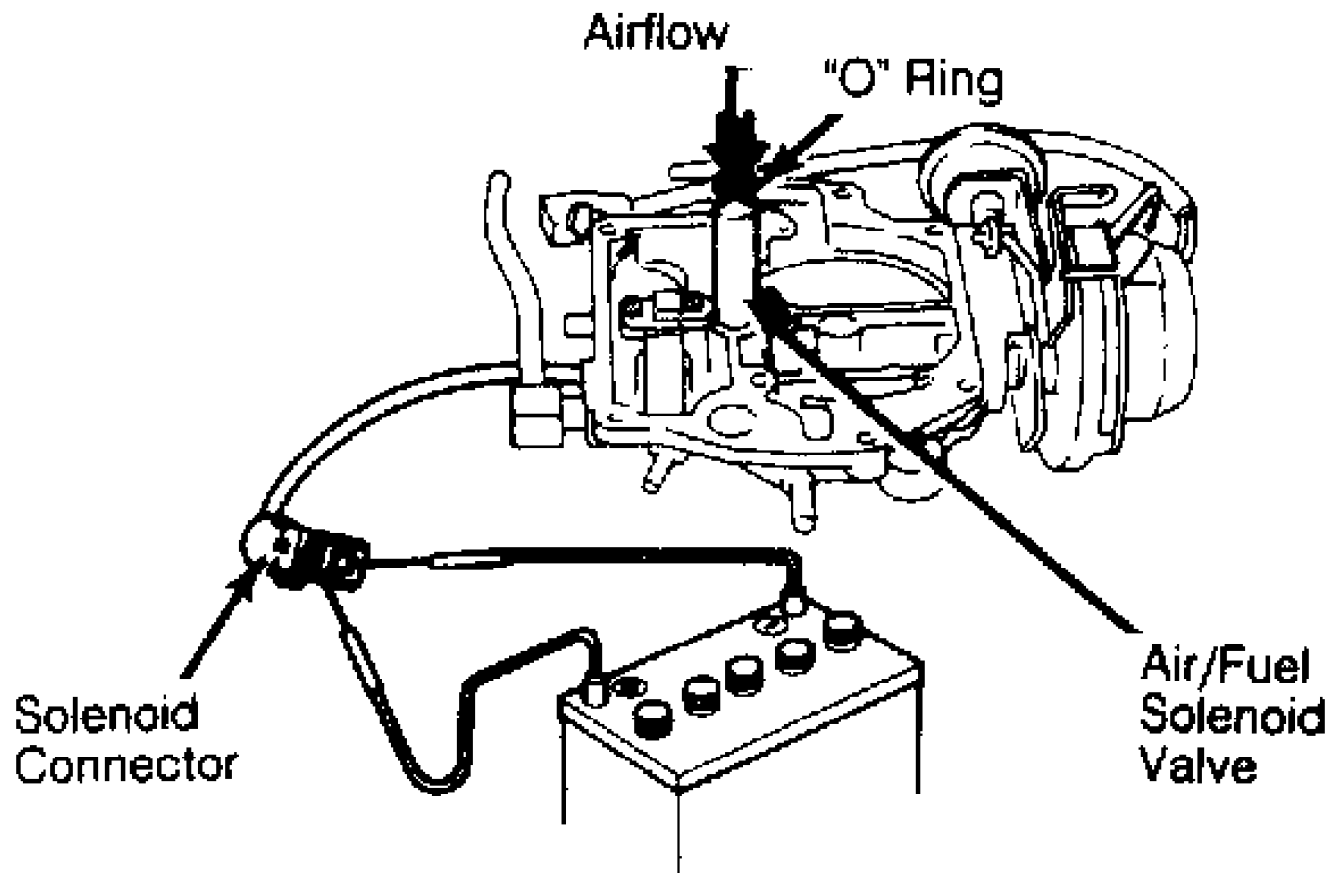

Fig. 15: Checking Air/Fuel (A/F) Solenoid Valve
5) To check air/fuel (A/F) solenoid valve, apply battery voltage across solenoid using solenoid connector. See Fig. 15. From bottom of air horn, blow air through valve in direction indicated in illustration. If air does not flow through valve with solenoid energized, replace air horn assembly (air/fuel solenoid and air horn are replaced as an assembly).